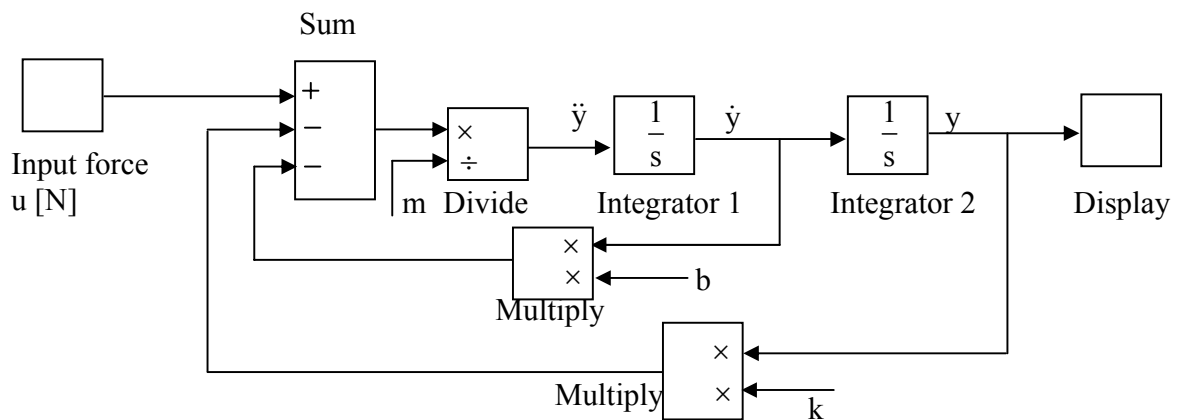

Figure 2 Block diagram of a second-order differential equation using integrators
A block diagram algorithm for (2) is shown in **Fig. 2**.